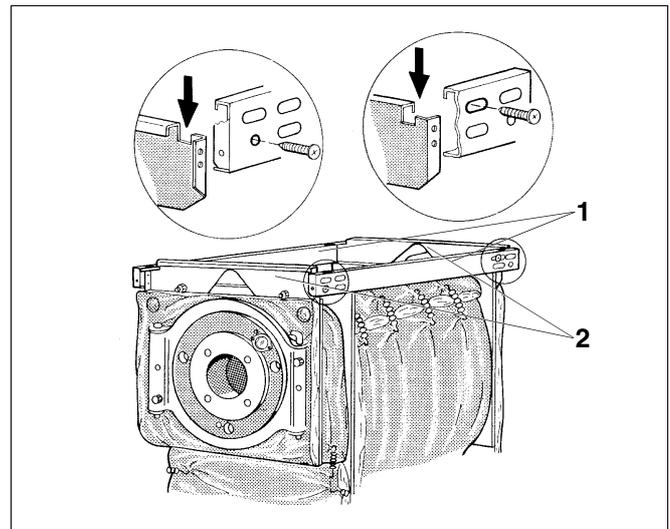

Fig. 8 Install the side rails
- Hook the side rails (Fig. 8, **item 1**) with their hooks into the slots in the front and rear support brackets (Fig. 8, **item 2**), at the front into the holes and at the rear into the slots, then secure with two self-tapping screws each.